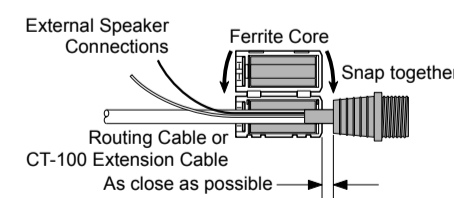

FIGURE 2
2. Referring to Figure 2, attach the supplied ferrite core as close as possible to the MIC plug of the Routing Cable and External Speaker Connections, then snap its two halves together. And then, wind some plastic tape around the ferrite core, to prevent vibration from causing the two halves to split apart and fall off the wires.